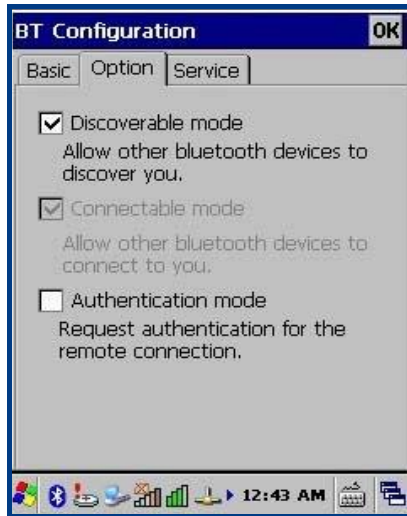

Figure 4.3: Option
- B. Tap the “Option” tab and then select “Discoverable mode”/ “Connectable mode” and “Authentication mode” as per your needs (Figure 4.3).